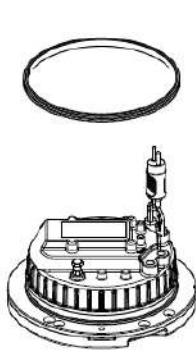

Figure 5-17
- Replace the lighting fixture gasket outside the inner cover: Take down the lighting fixture gasket outside the inner cover and carefully clean the seal groove. Load the new gasket to the correct working position on the inner cover. Please note that the gasket shall not be bent (Figure 5-17).